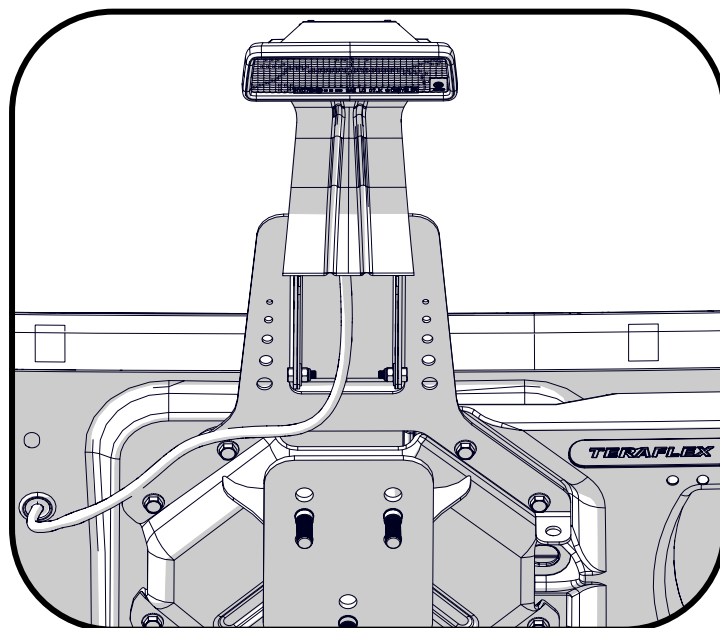

Figure 8
8. Route the wiring harness so it will not be damaged. Use zip ties to hold it in place if necessary. (Figure 8)